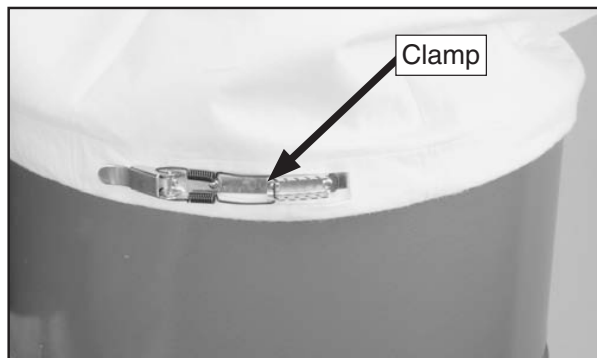

Figure 33. Upper collection bag secured.
10. Secure the upper bag to the collector with the clamp shown in **Figure 33**.